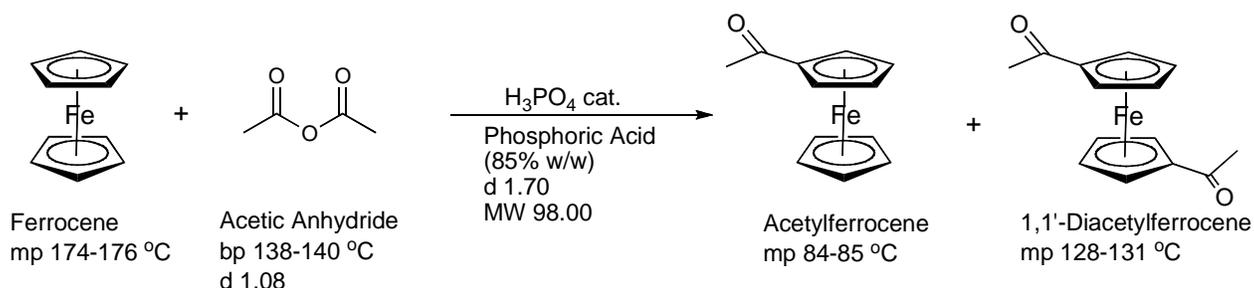

Figure 1. The overall reaction for the acylation of ferrocene.
**Ferrocene.** In this laboratory, you will acylate ferrocene (Figure 1). Ferrocene is an organometallic compound, which behaves like an aromatic compound. As one would suppose, an organometallic compound contains both a hydrocarbon and a metal. Sometimes this molecule is referred to as a “sandwich” complex because the iron is “sandwiched” between two rings.